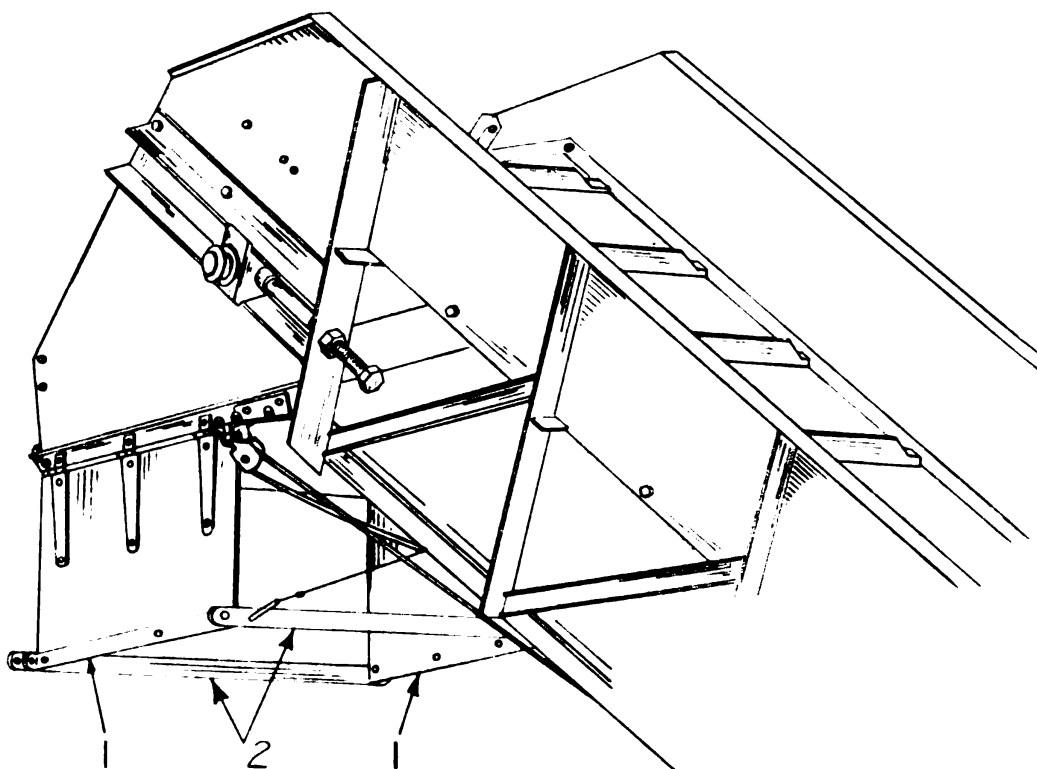

Figure 123. Conveyor discharge baffles.
- (a) Remove cables and tie bars (2), Figure 123 from baffles (1).